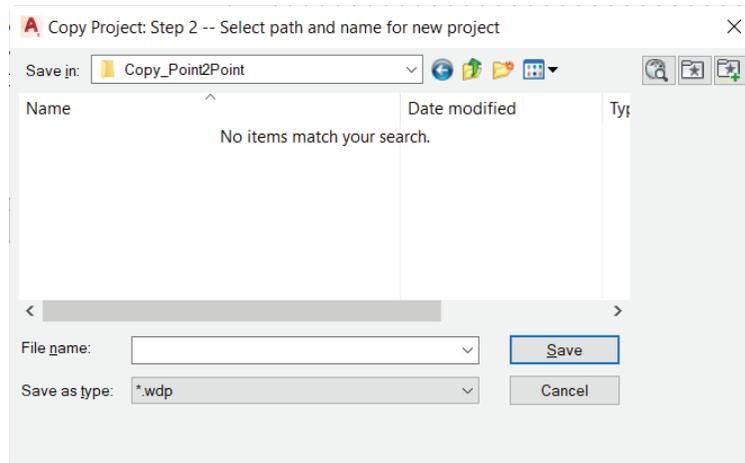

Figure 2-73 The Copy Project: Step 2 -- Select path and name for new project dialog box
4. Double-click on the **Copy_Point2Point** folder in the **Copy Project: Step 2 -- Select path and name for new project** dialog box and then enter **Copy_Point2Point** in the **File name** text box, refer to Figure 2-73.